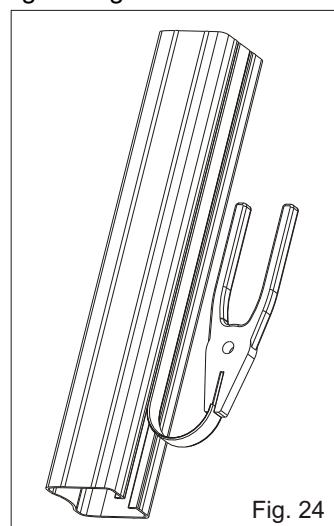
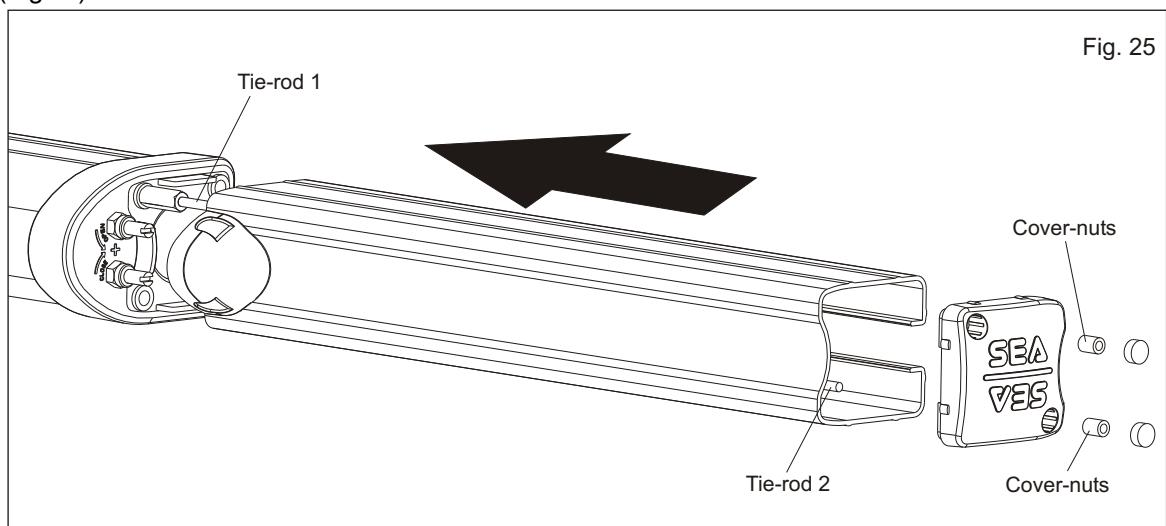

Fig. 24
Fig. 25
2.10. Remove the pull tongue from the shaft-cover (Fig 24) and mount it on the operator through the two tie-rods without excessively tightening the two cover-nuts (Fig 25).